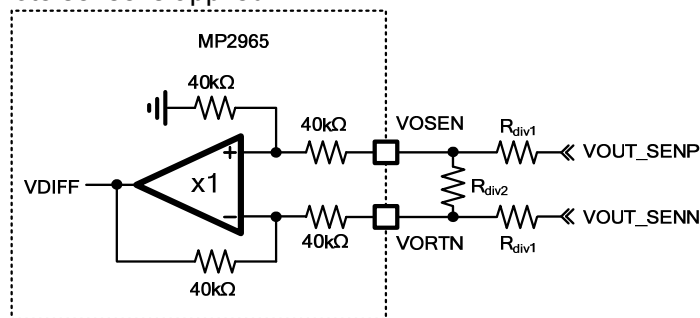
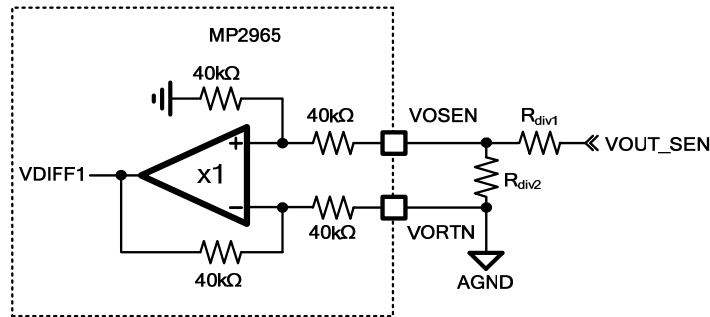

Figure 28: Output Divider Connections with Remote Sense
Figure 29: Output Divider Connections with Local Sense
When V_{OUT} is larger than 3V, the output voltage must be divided to the reference voltage within 0.25 - 2V. The MP2965 provides two methods of output voltage sensing: remote sense and local sense. Remote sense provides better load regulation. Figure 28 shows the typical connections when V_{OUT} is larger than 3V and a remote sense is applied.
VOUT_SENP and VOUT_SENN are from the load and must be routed as a differential pair on quiet areas. Calculate the voltage divider ratio in Figure 28 using Equation (13):
For output voltage designs above the VOSEN pin specification, connect the output divider as shown in Figure 29. VORTN is connected to AGND directly to disable the remote sense.
Calculate the voltage divider ratio in Figure 29 using Equation (14):
Table 10a shows the recommended output divider resistors and PMBus register settings for typical POL output voltages. Table 10a shows the resistor values in Figure 28 when remote sense is applied. Table 10b shows the resistor values in Figure 29 when local sense is applied.